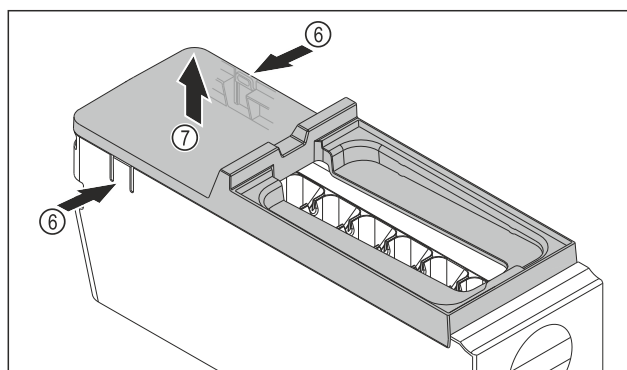

Fig. 92
- ▶ Removing the cover of the EasyTwist-Ice body: With one hand, press the tabs Fig. 92 (6) on both sides of the EasyTwist-Ice body.
- ▶ With the other hand, remove the cover Fig. 92 (7) upward.